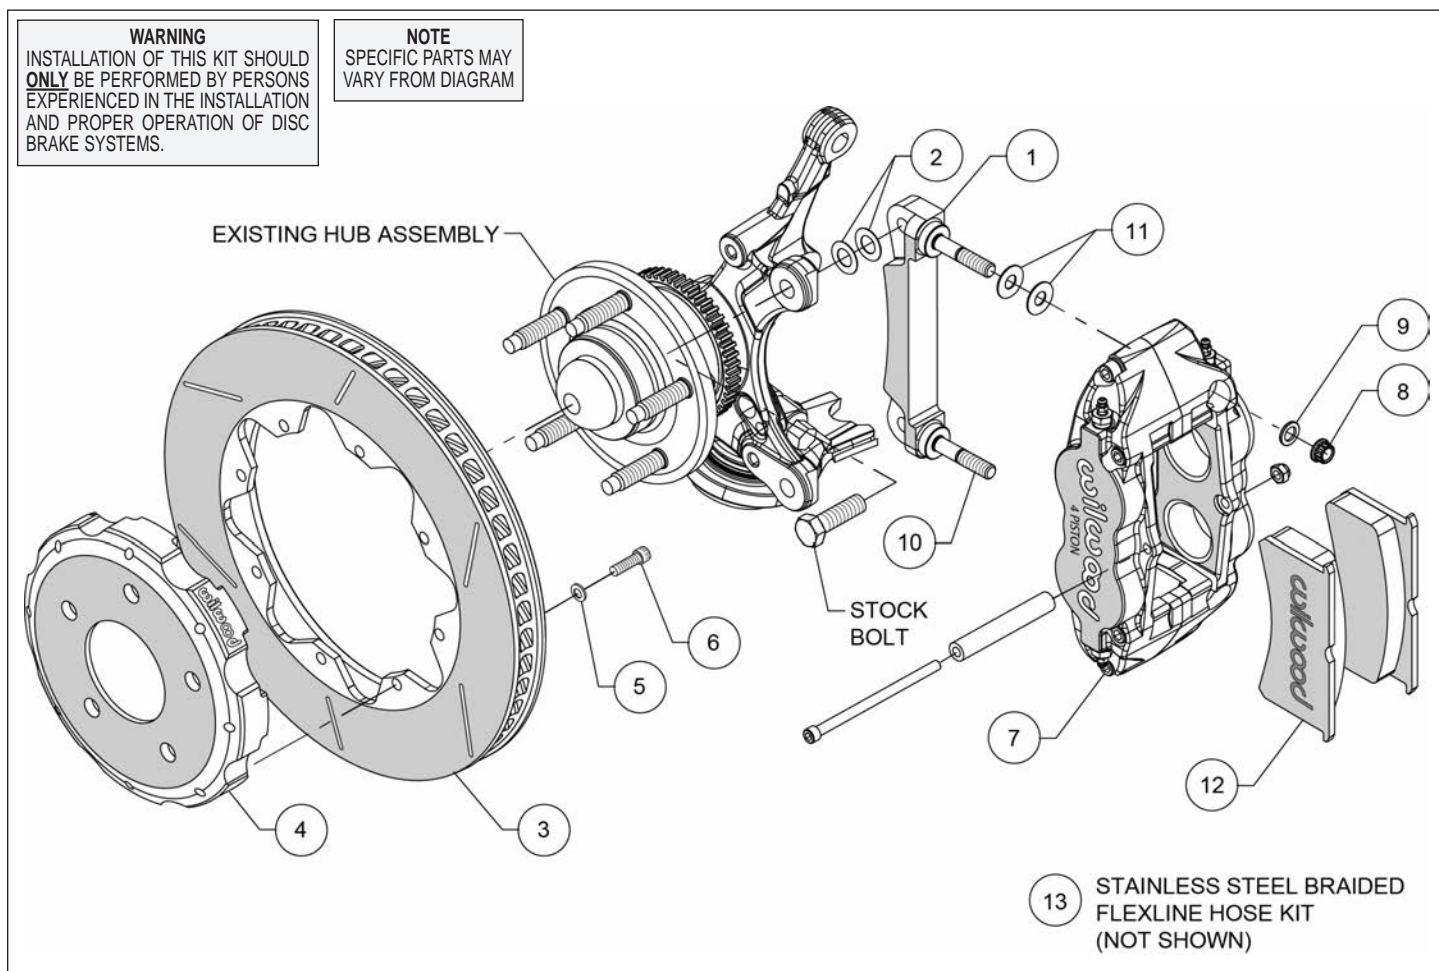
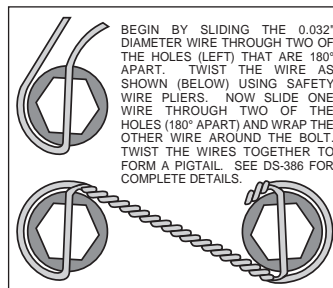

Figure 1. Typical Installation Configuration
Figure 4. Safety Wire Diagram
Assembly Instructions (numbers in parenthesis refer to the parts list and Figure 1 on the preceding pages):
- The caliper mount bracket (1) should initially be installed with clean, dry threads on the mounting bolts. Orient the bracket as shown in Figure 1 and Photo 1, then install using OEM mounting bolts. Initially place two .020" thick shims (2) on each bolt between the bracket and upright, Figure 1. Temporarily tighten the mounting bolts. **NOTE:** The bracket must fit squarely against the mount bosses on the upright. Inspect for interference from casting irregularities, machining ridges, burrs, etc. Later, after the caliper alignment has been checked, the mount bolts will be secured using red *Loctite*® 271.
- Orient the rotor (3) and the hat (4) as shown in Figure 1 and Photo 2. Attach rotor to hat using bolts (6) and washers (5). Using an alternating sequence, apply red *Loctite*® 271 to the threads, and torque to 25 ft-lbs. For an added measure of security, the bolts may be safety wired using standard 0.032 inch diameter stainless steel safety wire as shown in Figure 4. Please refer to Wilwood's data sheet DS-386 (available at www.wilwood.com/Pdf/DataSheets/ds386.pdf) for complete safety wire installation instructions.
- NOTE:** This kit contains distinct right and left hand calipers that must be mounted in a specific direction, as described below. Lubricate the caliper mounting studs (10) with lightweight oil. Initially place two .035" thick shims (11) on each stud between the caliper and the bracket, as shown in Figure 1 and Photo 3. With the bleed screws pointing up, mount the caliper (7) onto the bracket (1) using lock nuts (8) and washers (9), Figure 1. Temporarily tighten the lock nuts. Ensure that the caliper is mounted so the largest pistons are at the rotor exit end of the caliper, in relation to the direction of the rotor. View the rotor through the top opening of the caliper. The rotor should be centered in the caliper, Photo 4. If not, adjust by adding or subtracting shims (2) between the bracket and the upright. Always use the same amount of shims on each of the two mounting bolts. Once the caliper alignment is correct, remove the bracket mounting bolts one at a time, apply red *Loctite*® 271 to the threads, and torque to OEM manufacturer specifications.